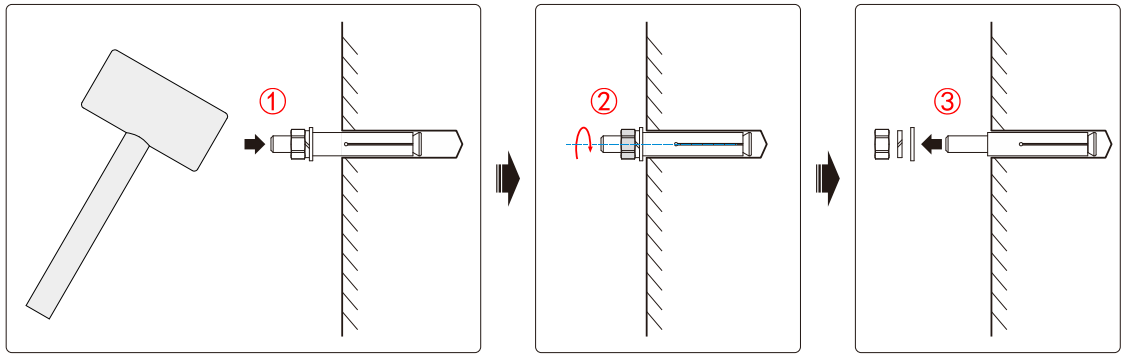

Figure3-22 Expansion bolt installation
Step 4 Install expansion bolts. Install the four M10*80 expansion bolts into the installation holes, as shown in Figure3-22.